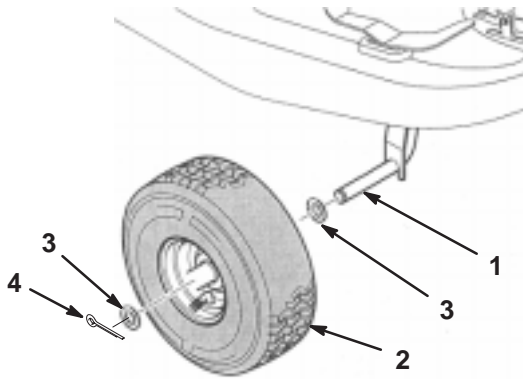

Figure 1
1. Slide a flat washer onto each spindle (Fig. 1).
2. Mount the wheels and secure them with a flat washer and cotter pin (Fig. 1).